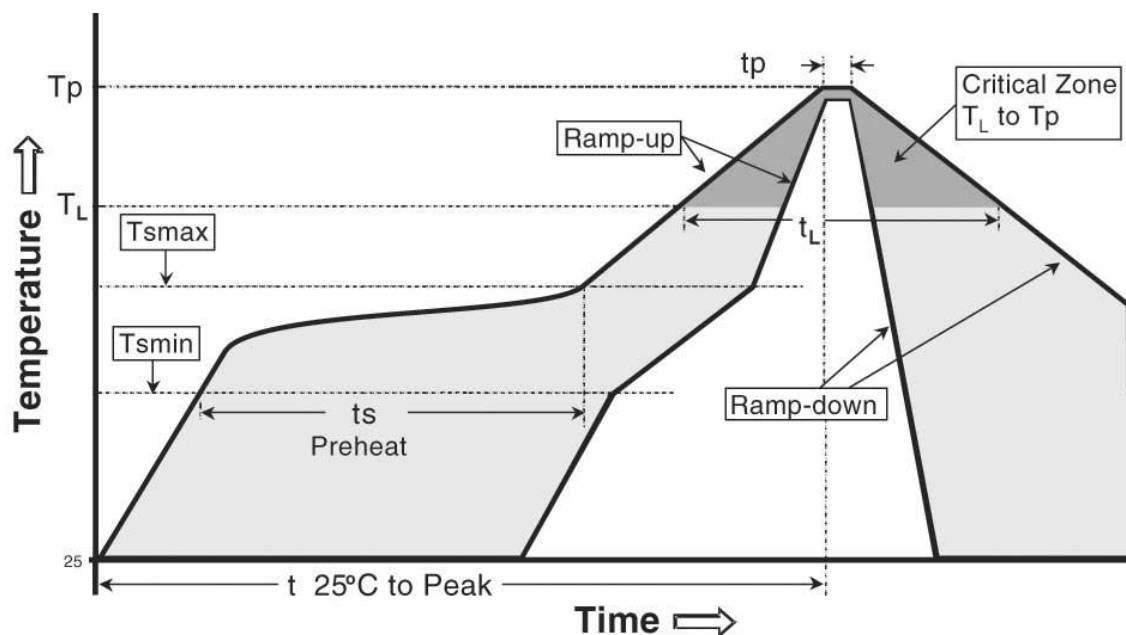

Figure 8 – Temperature profile.
2. Perform a reflow process according to the temperature profile detailed in Figure 8 on page 11.